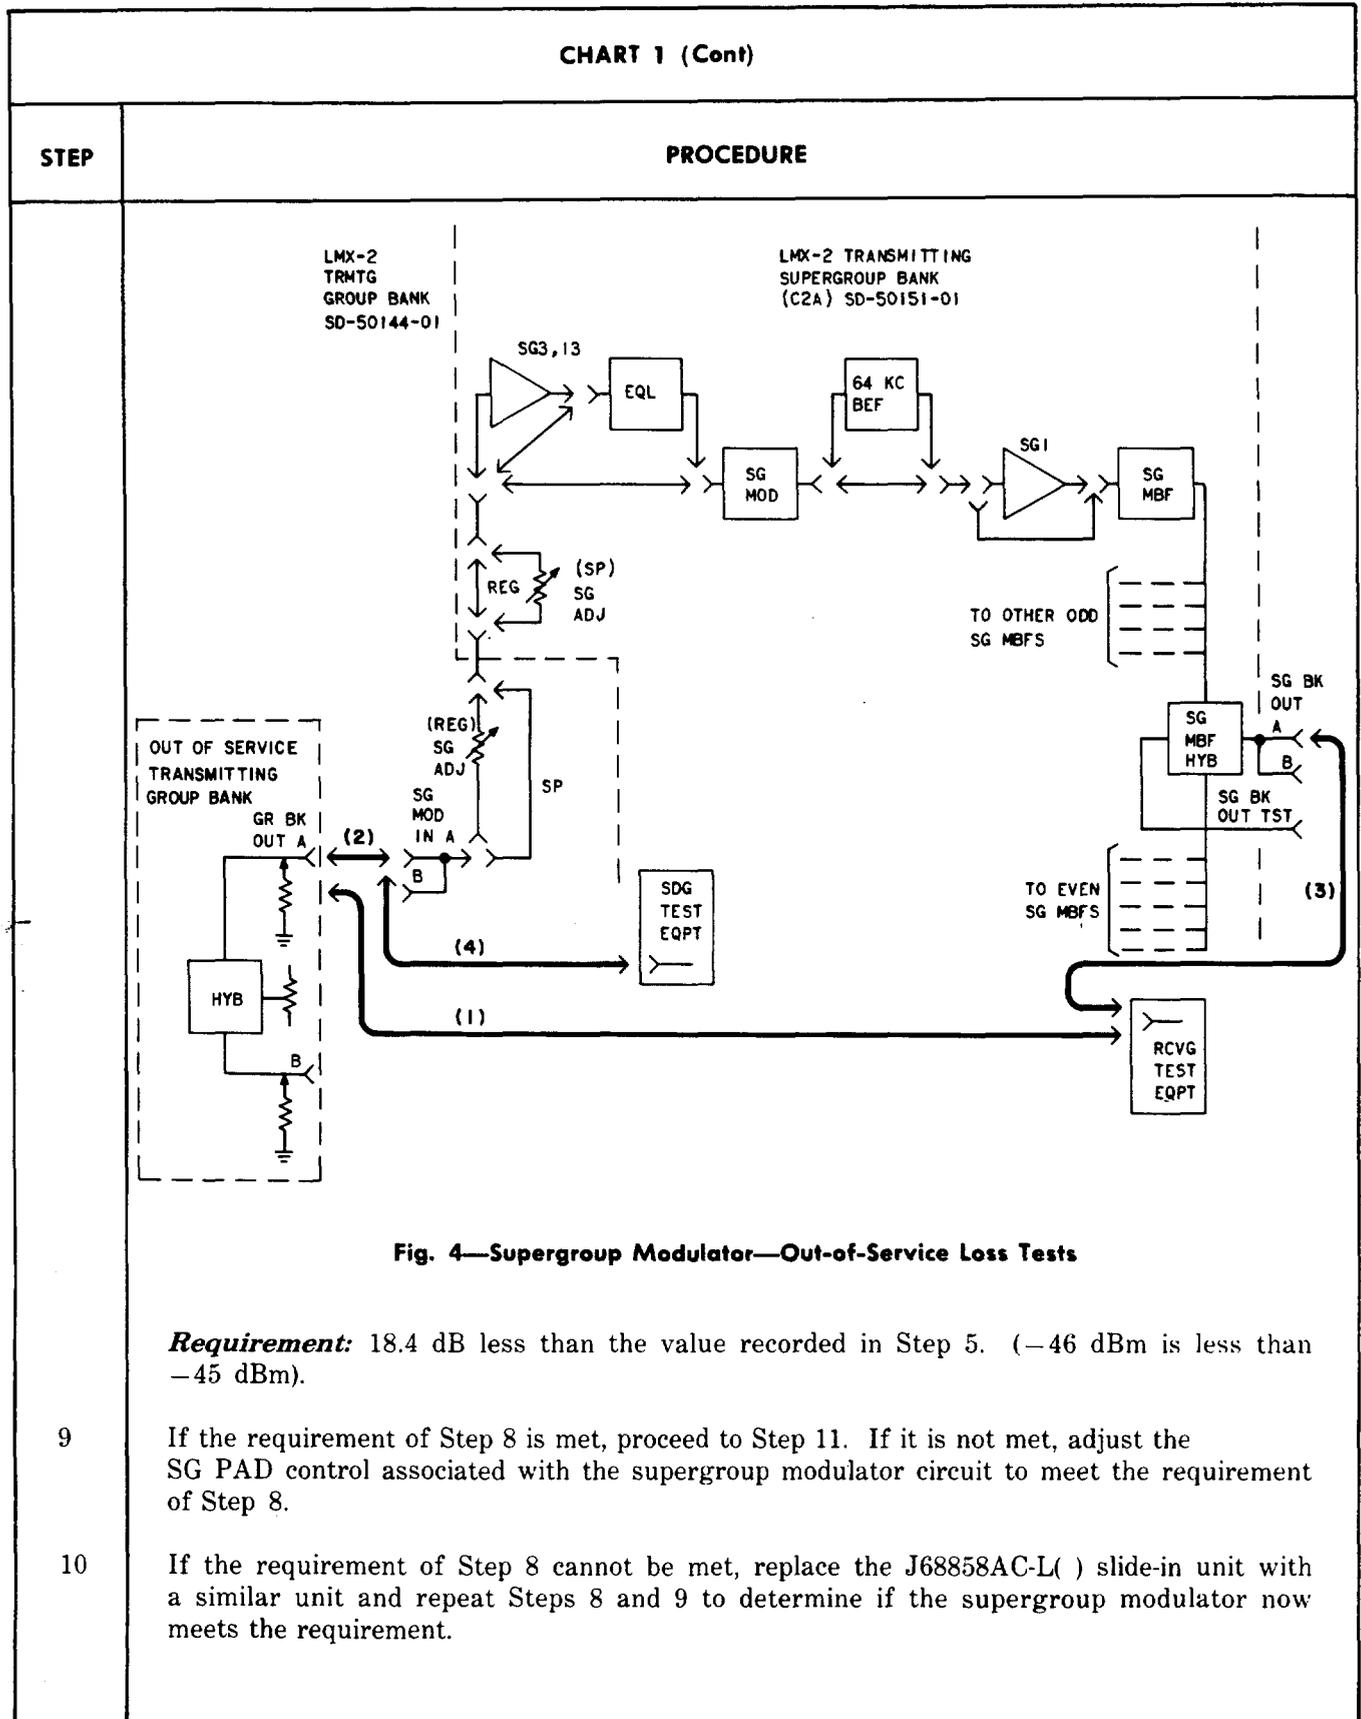

Fig. 4—Supergroup Modulator—Out-of-Service Loss Tests
4	Make patch (1) in Fig. 4.
7	Remove patch (1) and make patches (2) and (3) in Fig. 4.
13	Remove patch (2) and make patch (4) in Fig. 4.